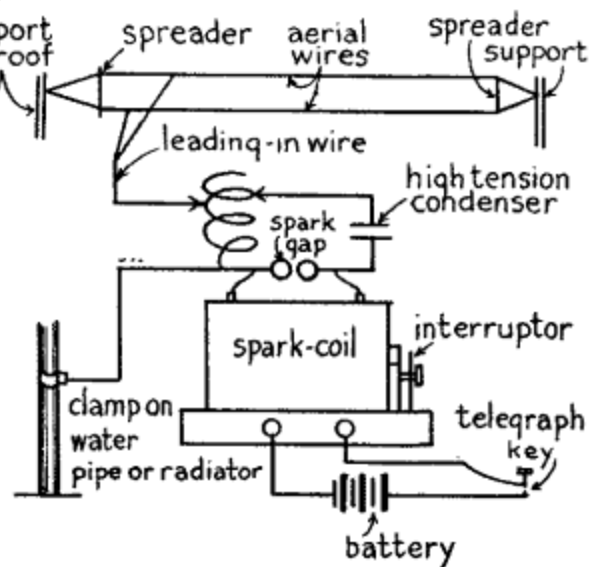

Fig. 2.—Simple Transmitting Set.
The Spark Gap Wireless Telegraph Transmitter.--The simplest kind of a wireless telegraph transmitter consists of: (1) a *source of direct or alternating current*, (2) a *telegraph key*, (3) a *spark-coil* or a *transformer*, (4) a *spark gap*, (5) an *adjustable condenser* and (6) an *oscillation transformer*. Where *dry cells* or a *storage battery* must be used to supply the current for energizing the transmitter a spark-coil can be employed and these may be had in various sizes from a little fellow which gives 1/4-inch spark up to a larger one which gives a 6-inch spark. Where more energy is needed it is better practice to use a transformer and this can be worked on an alternating current of 110 volts, or if only a 110 volt direct current is available then an *electrolytic interrupter* must be used to make and break the current. A simple transmitting set with an induction coil is shown in *Fig. 2*.